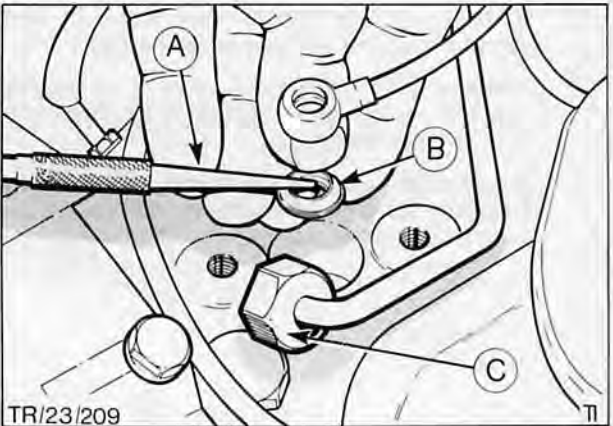

Fig. 76. Injector wave washer removal
6. Using an electricians screwdriver or scriber remove four injector wave washers, Fig. 76.